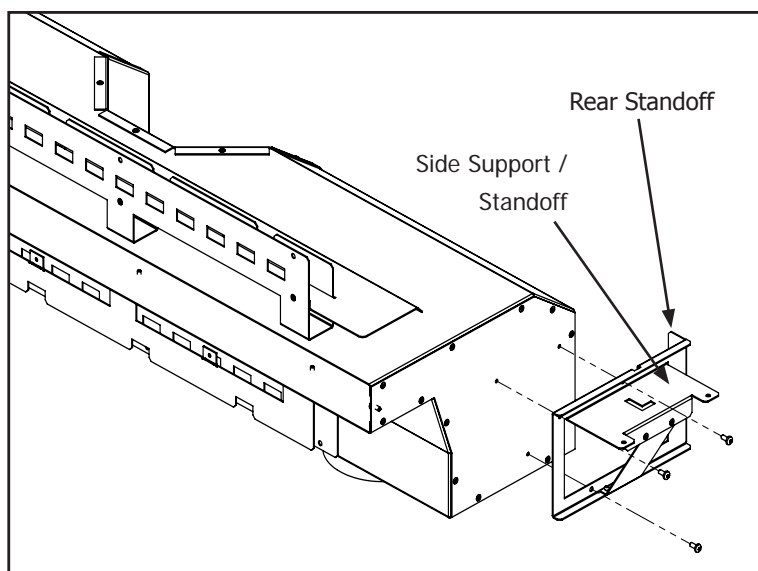

Figure 16. CSS - Side Supports
Prior to installation of the CSS the supplied set of side support/standoffs need to be attached to the sides of the main duct body. The side supports also incorporate the rear standoff as shown in figure 16.
Using a T20 screwdriver and the supplied screws 6 screws (3 per side), attach the left support as shown in figure 16. Repeat for the right side support.
Step 2: Using a T20 screwdriver, remove the screw on each side of the CSS outlet retaining the Outlet Trim Bezel and remove the Bezel (Figure 16).